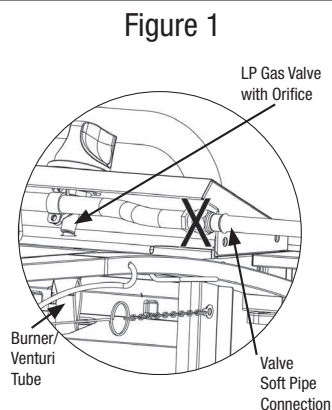

Figure 2
2. Make sure control knobs are in the "● OFF" position (Figure 2).
3. All control knobs must be in the "● OFF" position (Figure 2).